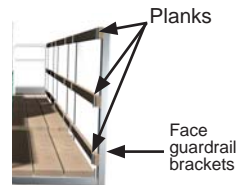

Fig. 7.11
- 4- Insert planks in the hooks of each face guardrail bracket to cover the hazardous opening (fig. 7.11). Secure the planks in place with nails or screws.